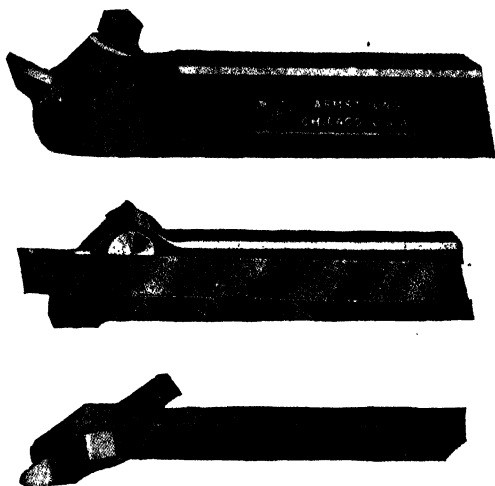

Fig. 64. Typical Lathe Tools
**Lathe Tools.** It is with the tools for the lathe that the amateur repair man finds his greatest difficulties. Only the most important points in tool use can be touched upon because of the limited scope of this article. Many shapes and sizes in cutting tools may be fitted for various jobs which one encounters but the standard tools will be found satisfactory for most jobs. Tool-holders for holding tungsten steel cutters are very useful and are probably more convenient than the usual lathe tools because the cutters do not have to be sharpened so often. In Fig. 64 are shown three typical forms of cutting tools. The first is a holder with straight body; the second, a cutting-off tool; and the third, a right-hand holder (left-hand holders are also available). There are a number of other necessary tools, of which thread-cutting tools and knurling tools might be mentioned.